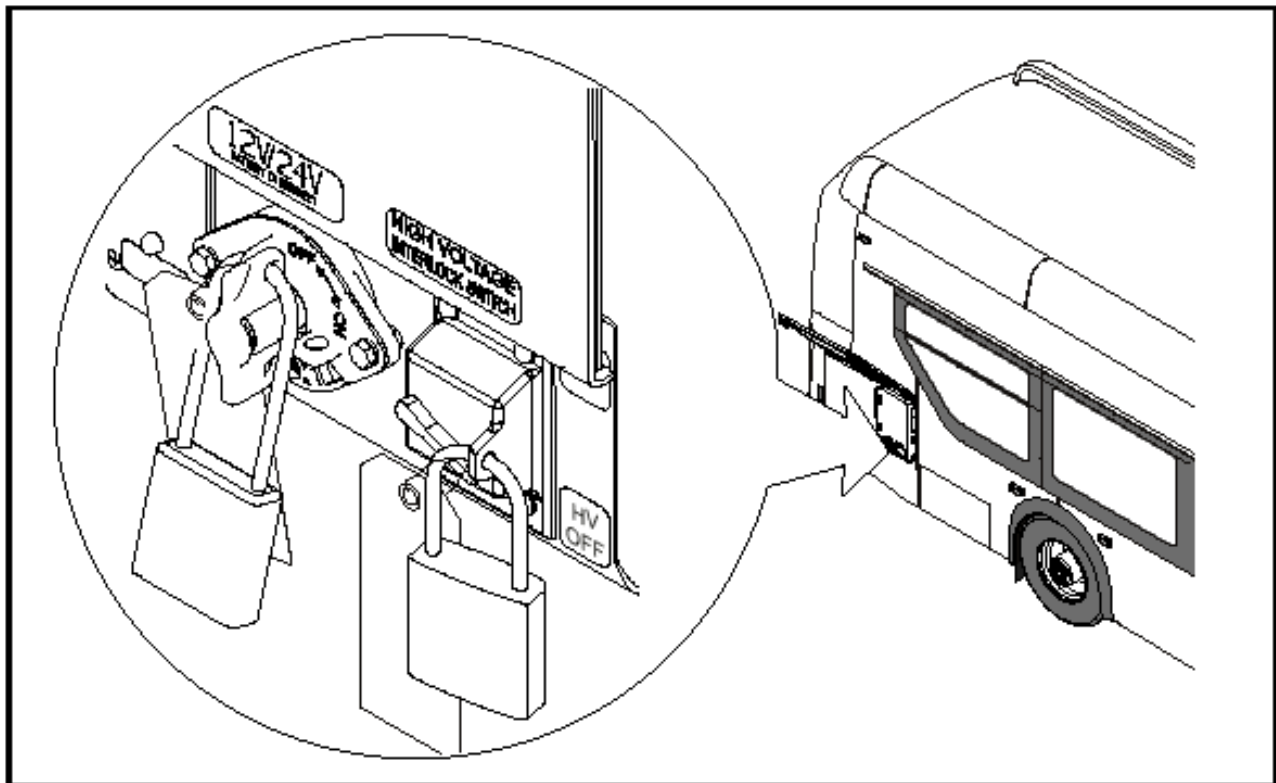

Figure 1: Lockout Tagout location reference.
3. Lock and Tag the electrical system of the bus out and retain the key. See Figure 1.